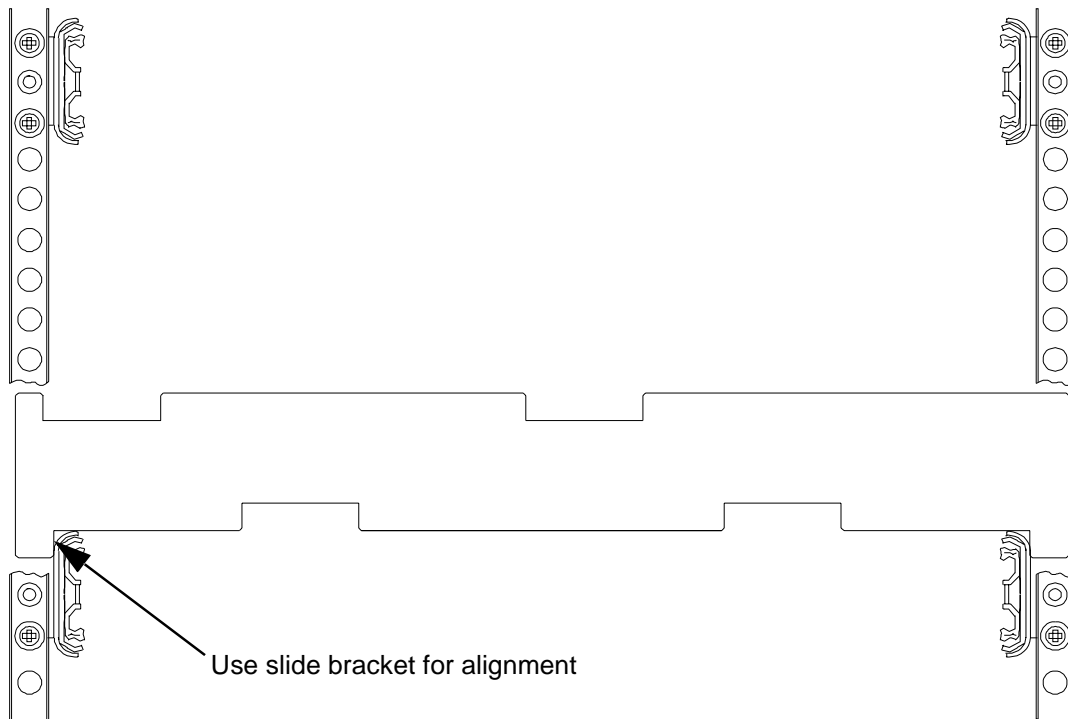

Figure 19. Horizontal Alignment of Rack Slides
4. Adjust the upper and lower slides on the left, both front and rear, to the maximum distance allowed by the gauge and tighten in place as illustrated in **Figure 19**. This assures the two units are properly aligned.